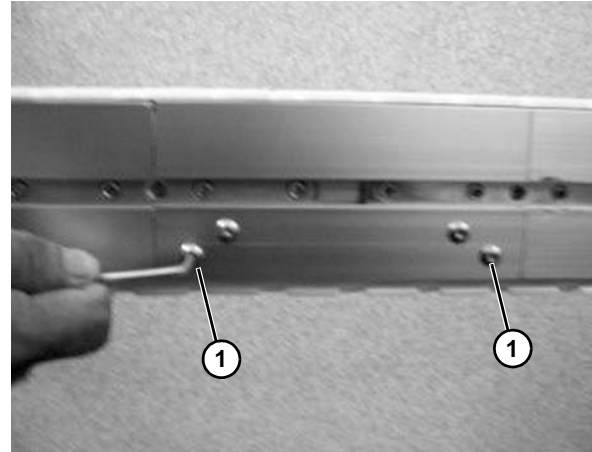

Figure 56
1. Loosen the screws (Figure 56, item 1) on the beam section flanges.